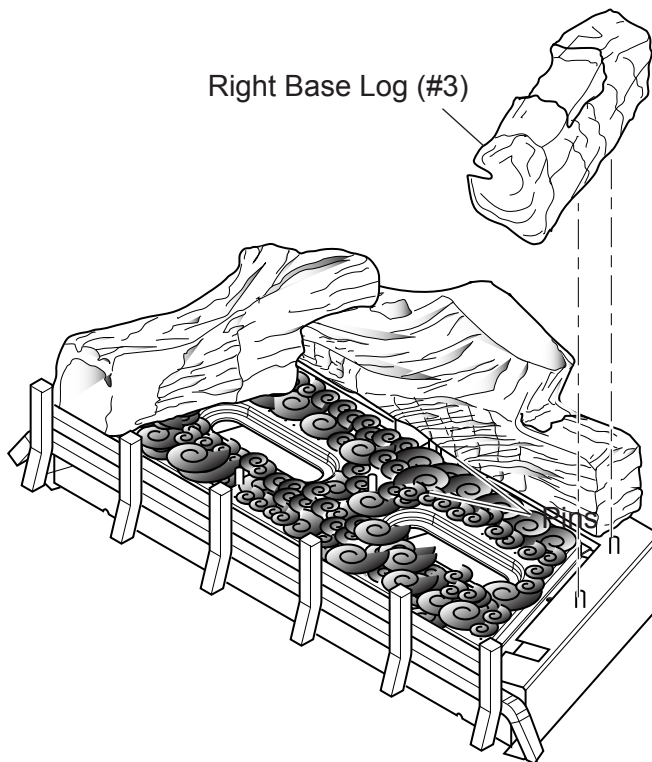

Figure 21 - Installing Right Log #3
6. Line up holes in bottom of right base log (#3) on two (2) pins to the right of rear log (#1). See *Figure 21*.